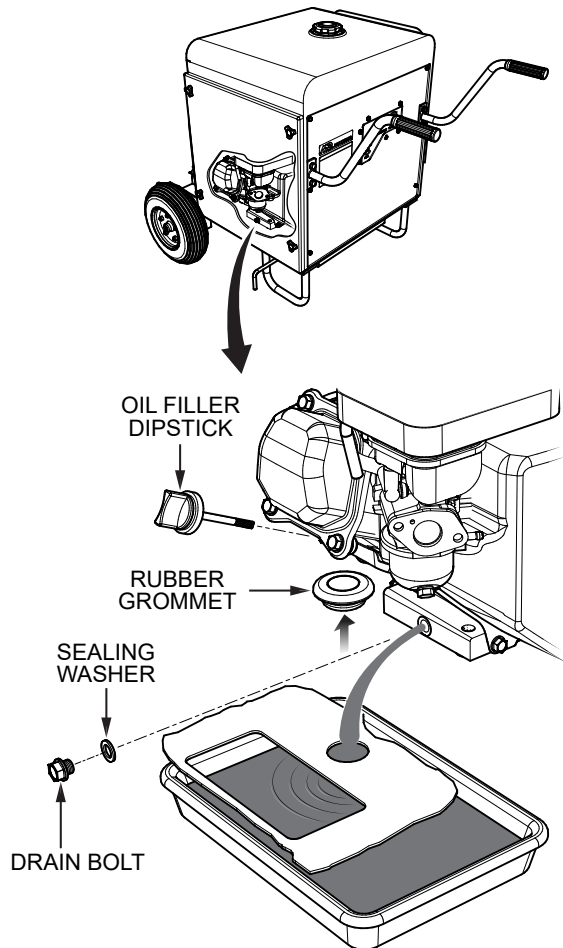

Figure 13. Engine Oil (Draining)
1. Drain the engine oil when the oil is **warm** as shown in Figure 13.